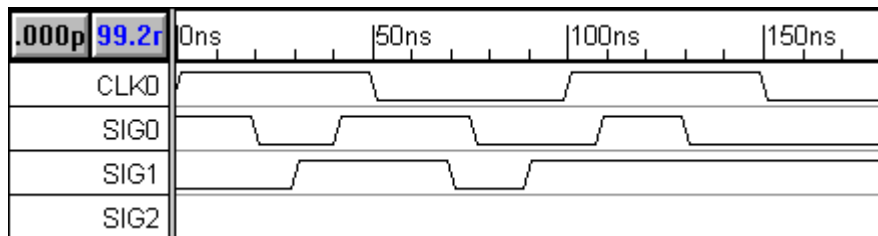

Figure 1.1: Timing diagram used for the Interactive HDL Simulation Tutorial
3. Draw the waveforms for signals *SIG0* and *SIG1* so that they resemble the signals in Figure 1.1. These will be the input signals for our simulation.